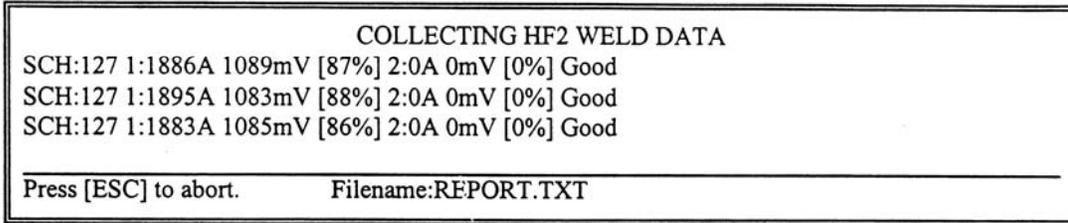

Figure 9-6. F2:COLLECT DATA Screen.
F2:COLLECT DATA (Figure 9-6)
- 1 Press [F2] to select the F2:COLLECT DATA screen. Figure 9-6 shows that the DATACOM Software has already collected weld data from three welds.